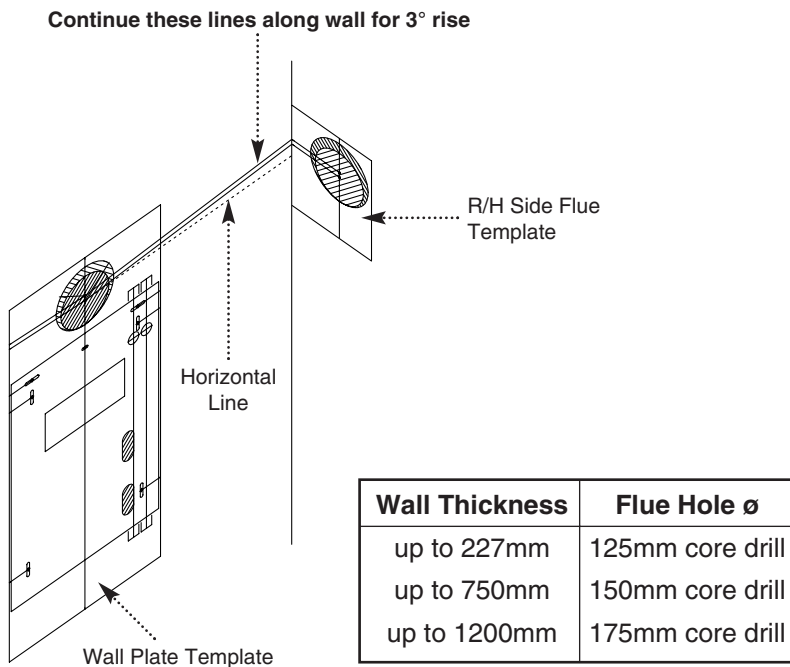

Fig. 21
4. Mark the centre of the flue hole (rear exit). For side exit, mark as shown (Fig. 21). If required, mark the position of the gas and water pipes. Remove the template.